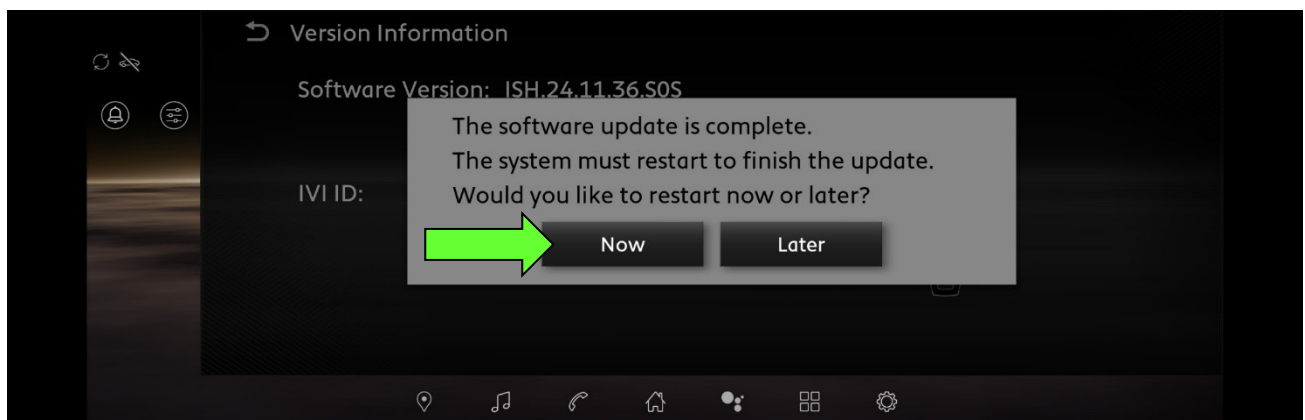

Figure 17
20. When the screen in Figure 17 is displayed, select **Now**.